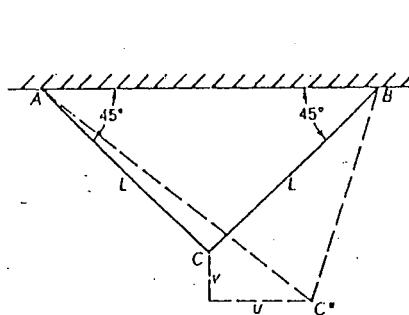

Fig. P2.16
2.16. The point C is displaced to C^* as shown in Fig. P2.16. The horizontal and vertical components of this displacement are u and v . Express the average extensional strains of AC and BC in terms of u , v and L . If u and v are small, what are the approximate expressions for these average extensional strains?